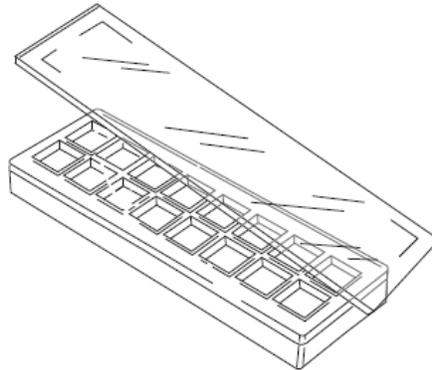

Figure 2
2. Place the microscope slide (array side down) over the silicone gasket, aligning the edges of slide with the edges of the upper structure as shown in Figure 2.